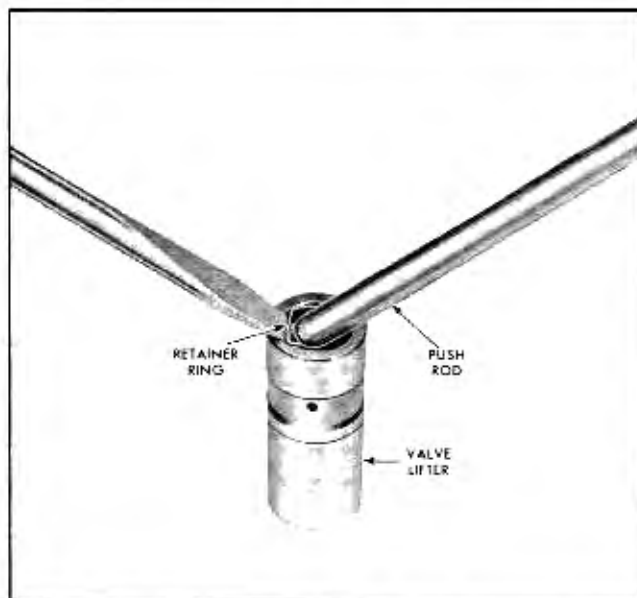

Fig. 6-48 Removing Push Rod Seat Retainer Ring
1. Remove push rod seat retainer ring by holding seat down with push rod while dislodging spring from lifter body with a pointed tool (Fig. 6-48). **NOTE:** It may be necessary to unseat lifter ball, using plunger unloader J-5097, before plunger can be pushed down.